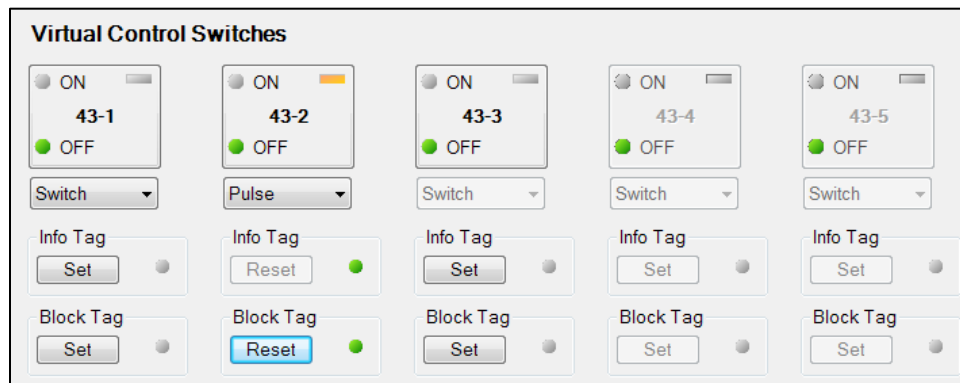

Figure 14-1. Virtual Switches Control Screen
1. Use the Metering Explorer to open the Control/Virtual Switches tree branch (Figure 14-1).
2. If Switch/Pulse mode is selected on the Virtual Control Switches (43) settings screen in BESTCOMSPi.us, use the drop-down box to select either Switch or Pulse.
Tagging of virtual control switches can be accomplished through the front panel and through BESTCOMSPi.us. Use the Metering Explorer in BESTCOMSPi.us to open the Control/Virtual Switches tree branch. Click on the Set button for Info Tag or Block Tag. If tagging is successful, the indicator to the right of the Set button will turn green. A tagged switch is indicated by an amber indicator in the upper right corner of the element button. Click on the Reset button to clear a tag. Refer to Figure 14-1.